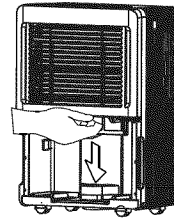

Figure 11
- Remove bucket then pull filter downwards (See Fig. 11).